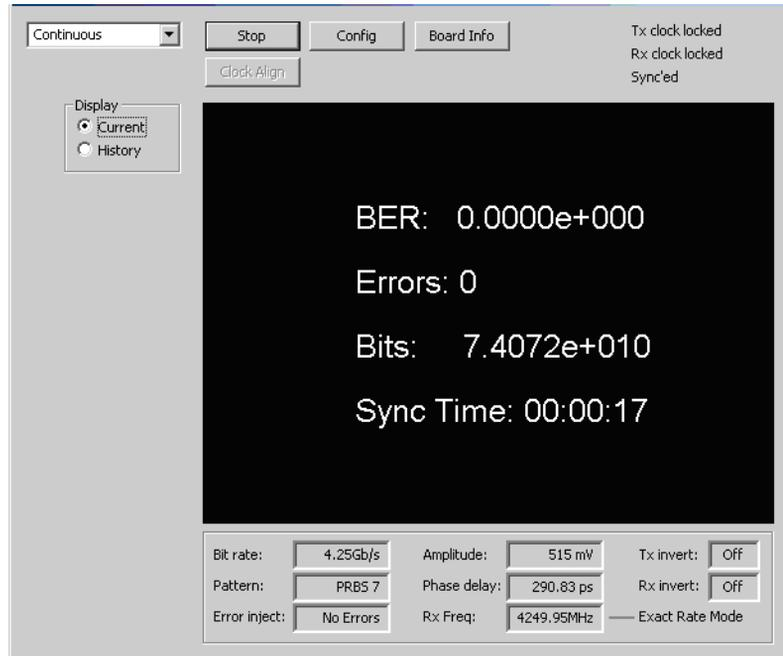

Figure 3-6. BER Screen with Zero Errors
- 8 Click **Start**. The form shown in Figure 3-6 on page 3-12 appears.